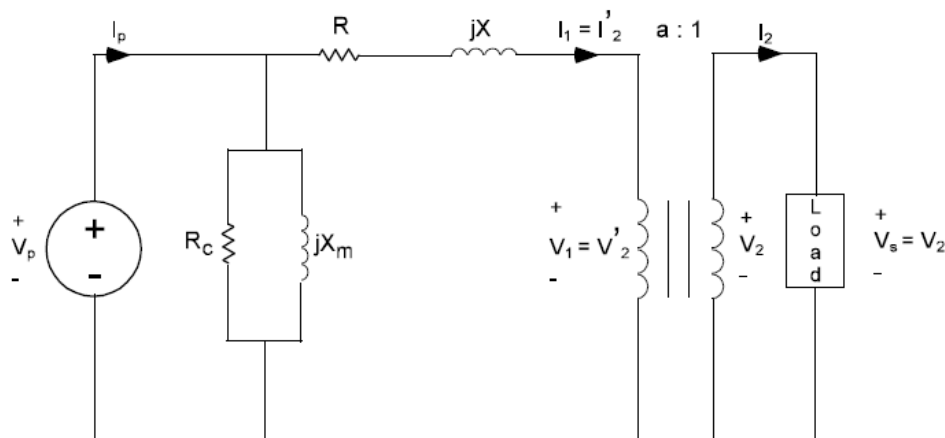

Figure 1 - Transformer Approximate Equivalent Circuit.
- 1.2 Determine the approximate equivalent circuit (shown in Figure 1) for a single-phase transformer that has a turns ratio of 1:1 and the following test data: